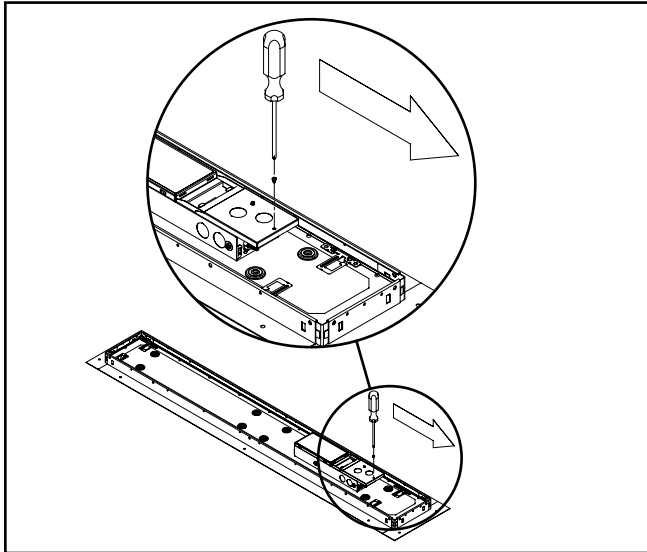

Figure 1.
3. Locate fixture junction box cover and slide to remove it. (Figure 1.)